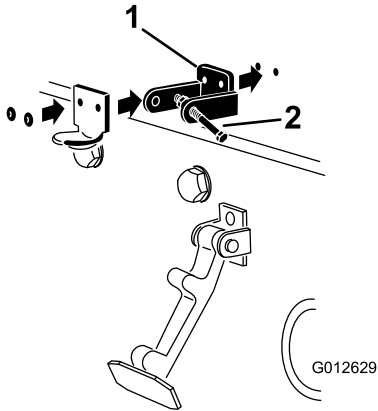

Figure 18
3. While aligning the mounting holes, position the CE lock bracket and the hood-latch bracket onto the hood. The lock bracket must be against the hood (Figure 18). Do not remove the bolt and nut assembly from the lock bracket arm.
5. Rivet the brackets and the washers to the hood (Figure 18).